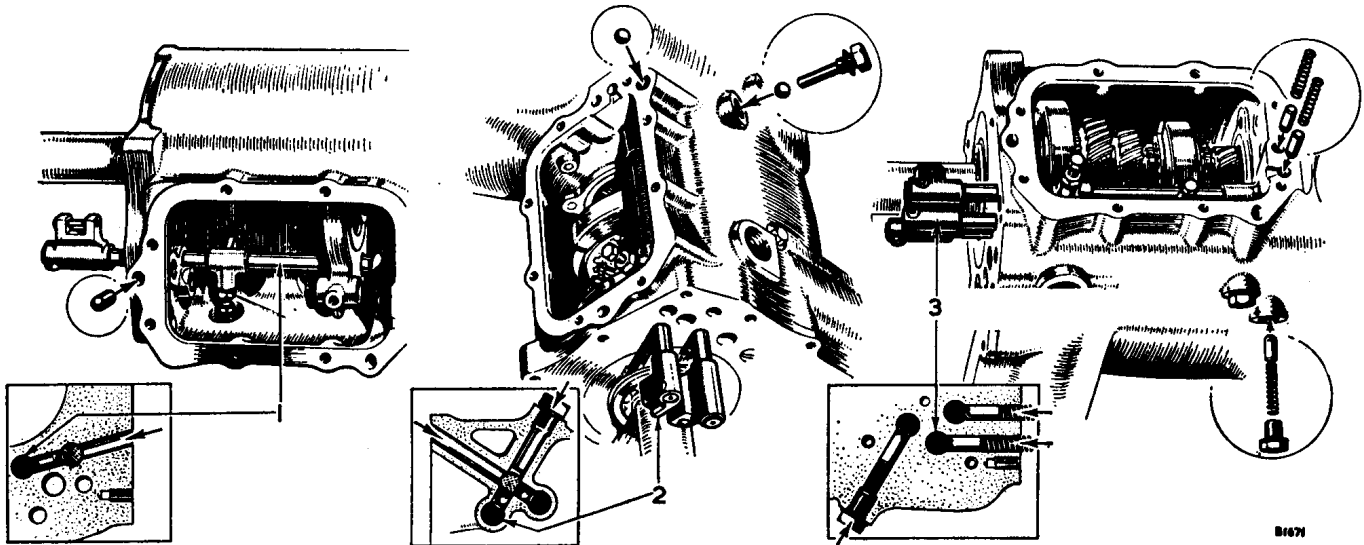

Fig. FF.5
- (2) The layshaft is not inserted until the third motion shaft assembly and first motion shaft have been installed.
- (3) Refit the first motion shaft assembly.
- (4) Replace the reverse gear and shaft. The large gear is to the rear of the gearbox, and a screw-
- (9) Replace the reverse selector rod, identified by the stop pin through the gate, threading it through the bore farthest from the gearbox side cover, the reverse gear fork, and the clearance hole in the third and fourth gear fork. With the gate uppermost, align the locating screw hole and register, replace, and lock the selector fork screw see Fig. FF.5).
- (10) Replace the first and second gear selector fork and insert the first and second selector rod, identified by the closed gate, in the bore nearest to the side cover. Align the selector fork retaining screw hole with the register on the rod and insert and lock the screw.
- (11) Turn the gearbox over. Align the groove at the rear end of the rod with the double-ended plunger already inserted and insert an interlock ball through the lower drilling in the right-hand corner of the cover-plate face, pushing the ball beyond the third and fourth selector rod bore until it engages the groove in the reverse shaft. Insert a ball through the rearmost of the drillings in the bottom of the gearbox at the front end of the rods. Insert the third and fourth selector rod, engaging the selector fork and aligning the gate with the gates of the other two rods. Replace the plug and fibre washer in the bottom of the gearbox. Align the fork retaining screw hole with the register on the rod and insert and lock the screw.
- (12) Insert the single-ended plunger, round end first, in the foremost of the two drillings in the bottom of the gearbox below the front end of the rods. Follow the plunger with a spring and secure with a plug and fibre washer.
- (13) Clean the mating faces of the gearbox casing and side cover. Insert the first and second rod and third and fourth selector rod locating plungers, round ends first, and the retaining springs (see Fig. FF.5). Replace the side cover and joint seal.
- (14) Clean the rear face of the gearbox housing and fit a new joint seal gasket if the original is damaged. Smear grease on the outer race of the rear bearing and adhere the packing washer. Before replacing the gearbox rear cover ensure that the oil seal, felt, and sliding joint bush are in good condition. To remove the oil seals the outer dust cover should be released from the gearbox casing by cutting with a hacksaw the turned-down edge which registers in a groove in the gearbox. Pull off the dust cover and then remove the oil seal assembly, using Service tool 18G 389 and adaptor 18G 389 A. When reassembling, a new oil seal assembly complete must be fitted (an outer dust cover is not fitted to later gearboxes).